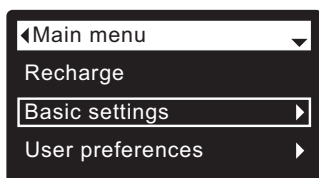

FIG. 42
1. From any of the rolling status screens, press the SELECT (O) button to display the **Main menu**.
2. Press the DOWN (▼) button to scroll through the menu options until **Basic settings** is highlighted (See Figure 42).